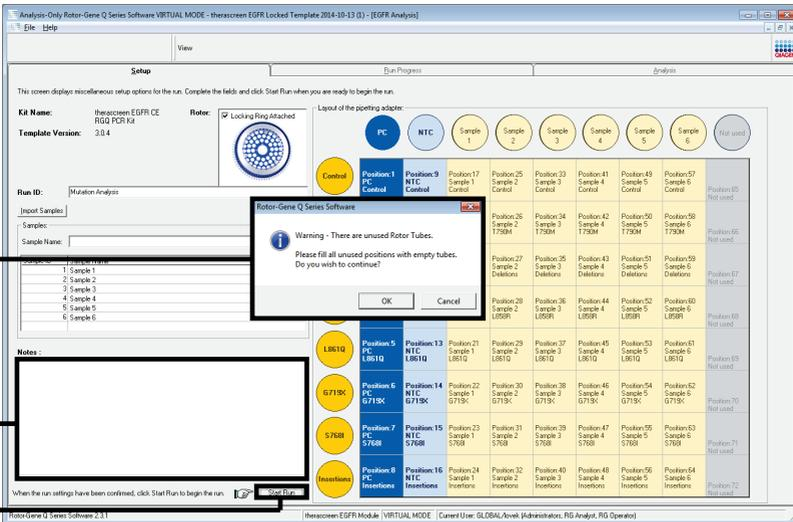

Figure 14. “Notes” dialog field (1), the “Start Run” button (2) and “Warning” of unused rotor positions (3).
16. When all sample names are entered, verify that they are correct. Add any additional information in the **Notes** field if necessary, then click **Start Run** (Figure 14).
Note: If any rotor position is unused, a “Warning” will appear (Figure 14) to remind the user that all unused positions on the rotor must be filled with capped, empty tubes. Check that all unused rotor positions are filled with capped, empty tubes and click **OK** to proceed.